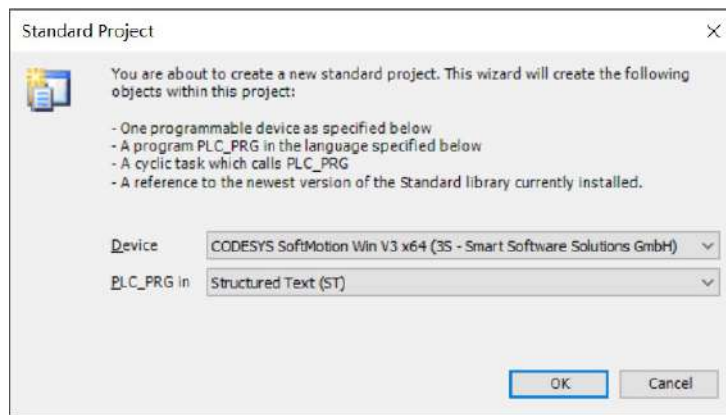

Figure 5-2-20 Select device and programming language
In the standard project window, select "CODESYS SoftMotion Win V3" as the device, and choose "Structured Text (ST)" as the programming language for PLC_PRG, as shown in Figure 5-2-20.